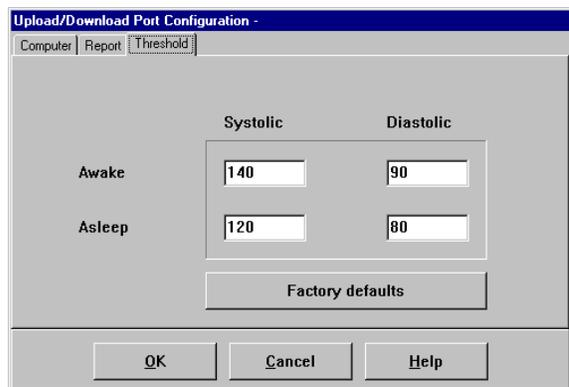

Fig.22. Threshold dialog box
1. On the menu, select **Edit**, then **Thresholds** to display the Thresholds dialog box (Fig. 22).